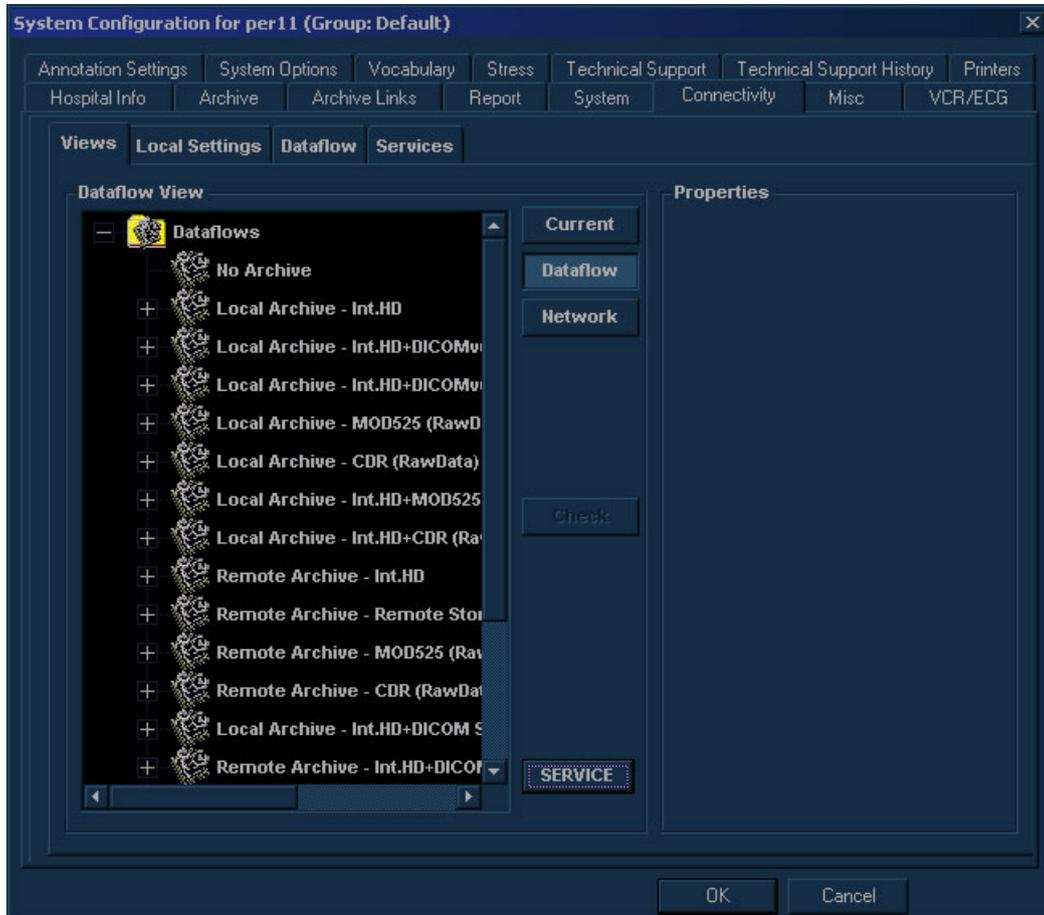

Figure 3-45 Views Tab
- 3) Trackball to the **Dataflow** button and press **Select**. The full list of data flows is displayed, as shown in Figure 3-45 on page 3-62.